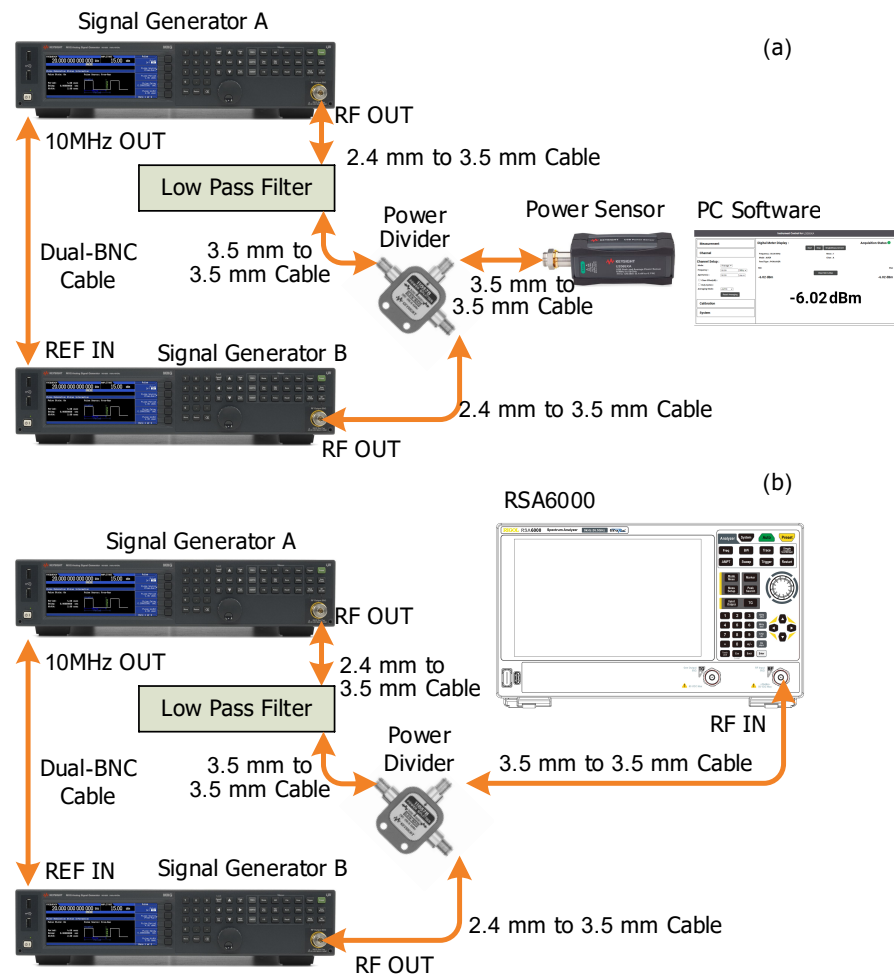

Figure 4.6 TOI Distortion Test Connection Diagram
4. Connect the output terminal of Signal Generator B with the power divider. Connect the power divider with the power sensor, as shown in *Figure 4.6 (a)*.
7. Enable the outputs of the two signal generators. Disconnect the power divider from the power sensor; connect the power divider with the spectrum analyzer, as shown in *Figure 4.6 (b)*.